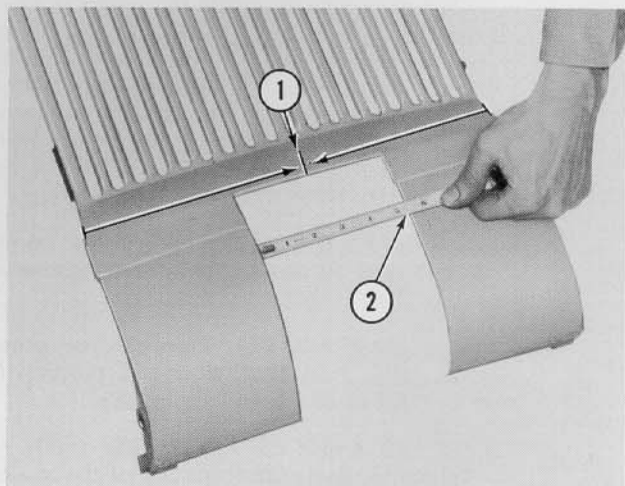

Figure 11
- a. Find the exact center line of the tractor radiator grille and mark as shown at (1), Figure 11.
- b. With a hacksaw, make two cuts exactly  $2\frac{5}{8}$ " from the center line, and extending to the height shown. Bend the metal back and forth until it breaks off, then hammer the edge over as shown. When the cut is completed, the opening should be  $5\frac{1}{4}$ " wide as shown at (2), Figure 11.